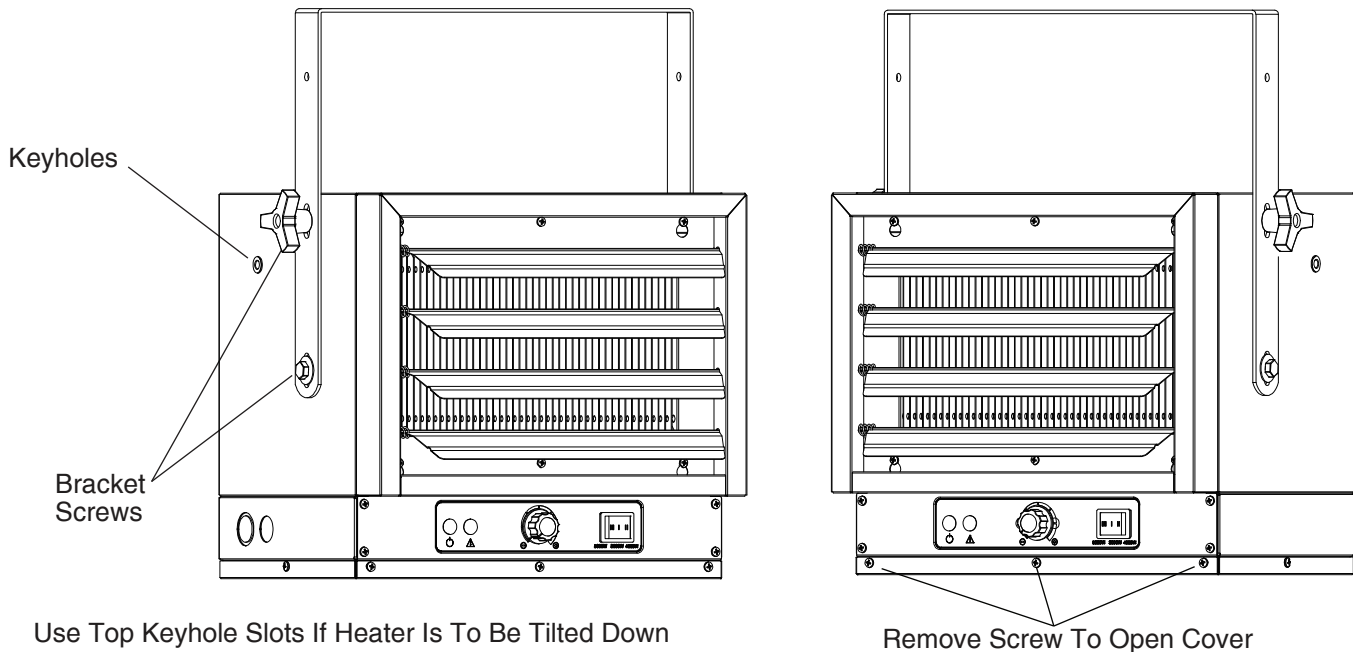
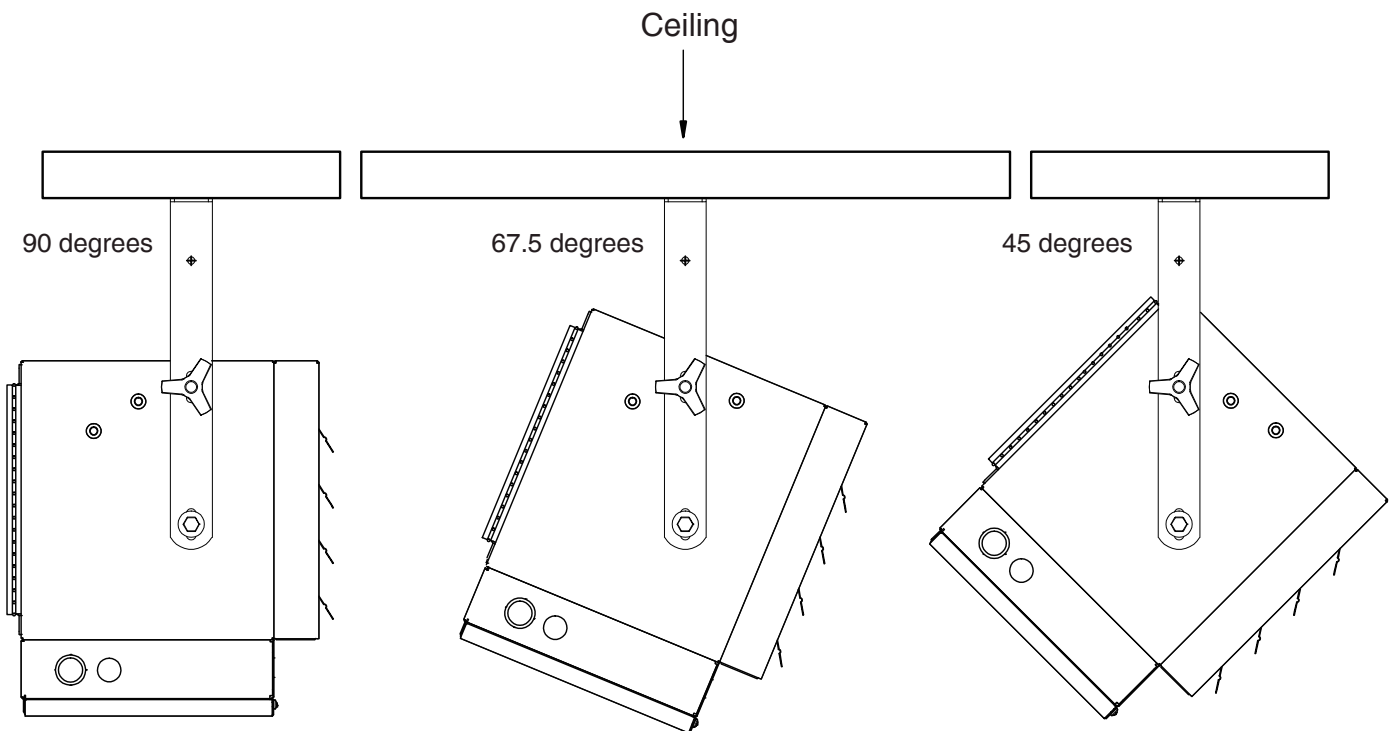

Figure 6
Figure 8
- 3) If the heater is to be tilted, it must be positioned in the keyhole slots. (See figure 6)
2. To tilt the unit vertically, loosen the bracket screws (see figure 6) and see figure 8 to view multiple vertical angles.